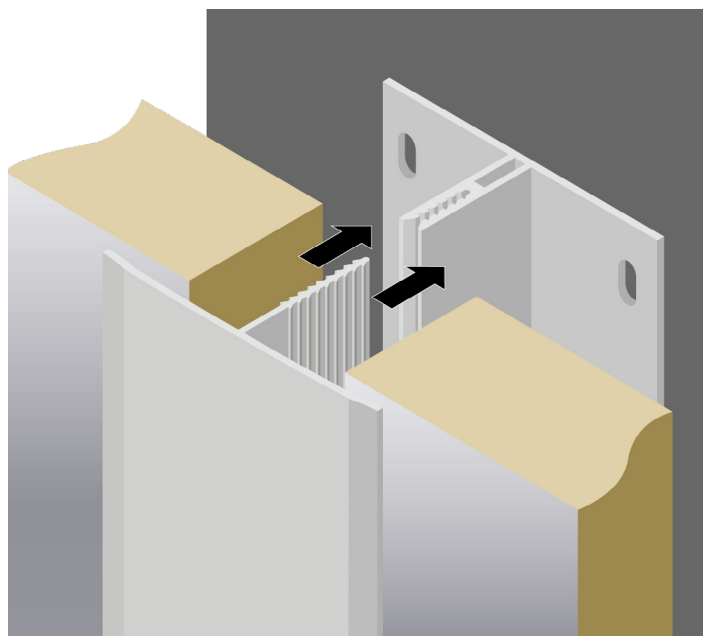

Figure 1.
- PVC Interlocking System (see Figure 1)
3. Install PVC interlocking system vertically with self-impaling nails/ fasteners and washers (Figure 1).